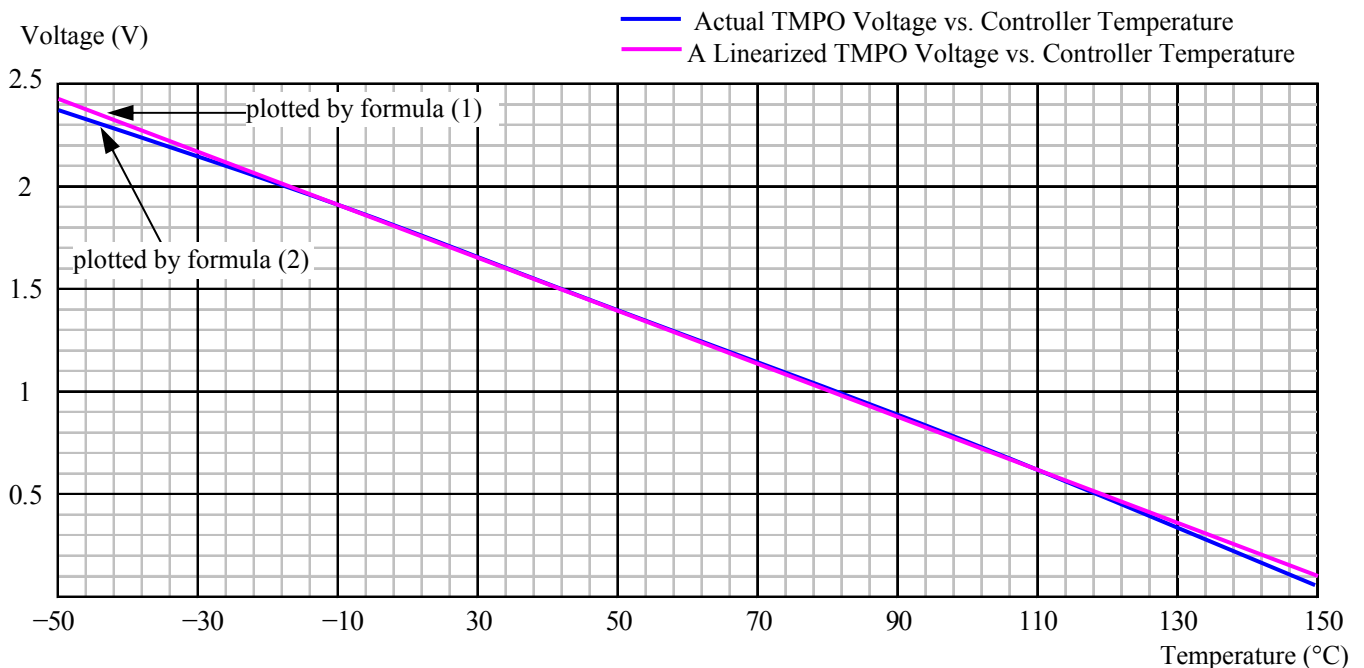

Figure 15. Controller Internal Temp vs. TMPO Voltage
Within the most commonly used temperature range of between 0°C to 100°C, the maximum error occurs at about 1.5V, at which the temperature error between the calculated data by using the formula (1) and the approximated data obtained by using the linear equation (2) is about 0.4°C, with the linear data being a little lower. The curves of the 2 sets of the data are plotted in Figure 15.